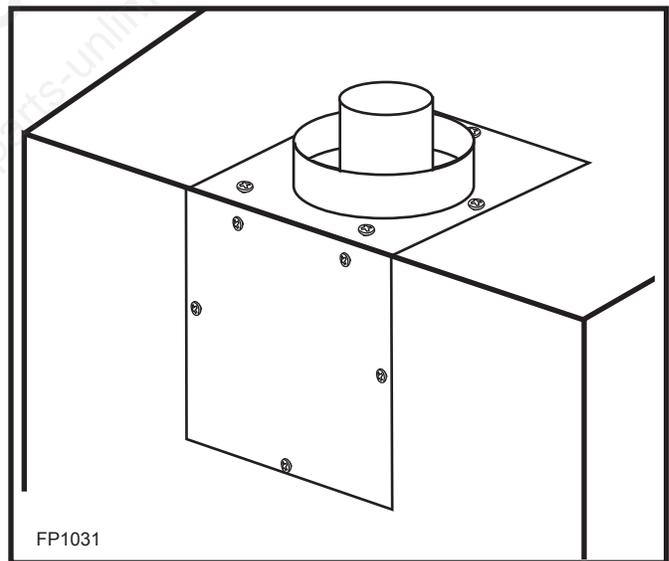

Fig. 14 Complete conversion.
5. Secure flue cover to back of flue outlet. Be sure to replace gasket. (Fig. 14)
6. Install flue pipe and gasket removed in step 4 to top of unit with four (4) screws. Be sure to replace gasket. (Fig. 14)